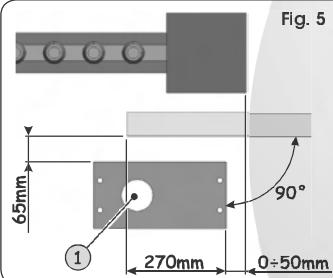
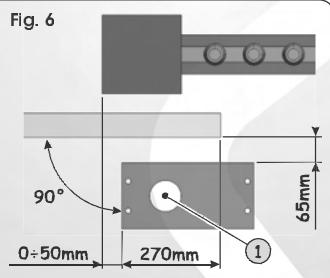

Fig. 5
Fig. 6
- The foundation plate must be located as shown in Fig. 5 (right closing) or Fig. 6 (left closing) to ensure correct meshing between rack and pinion.